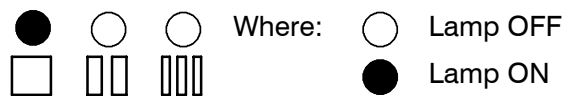

Fig. 7.7
- 6 The lamps 10 should give the indication as in Fig. 7.7.